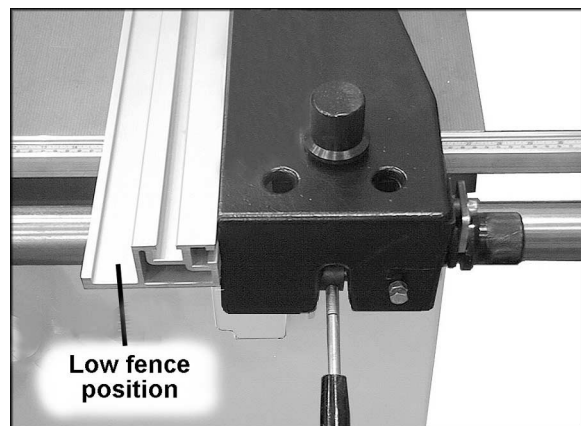

Figure 34
1. Loosen the aluminum fence lock, slide the fence off and slide it back on in the low position, as shown in Figure 34.